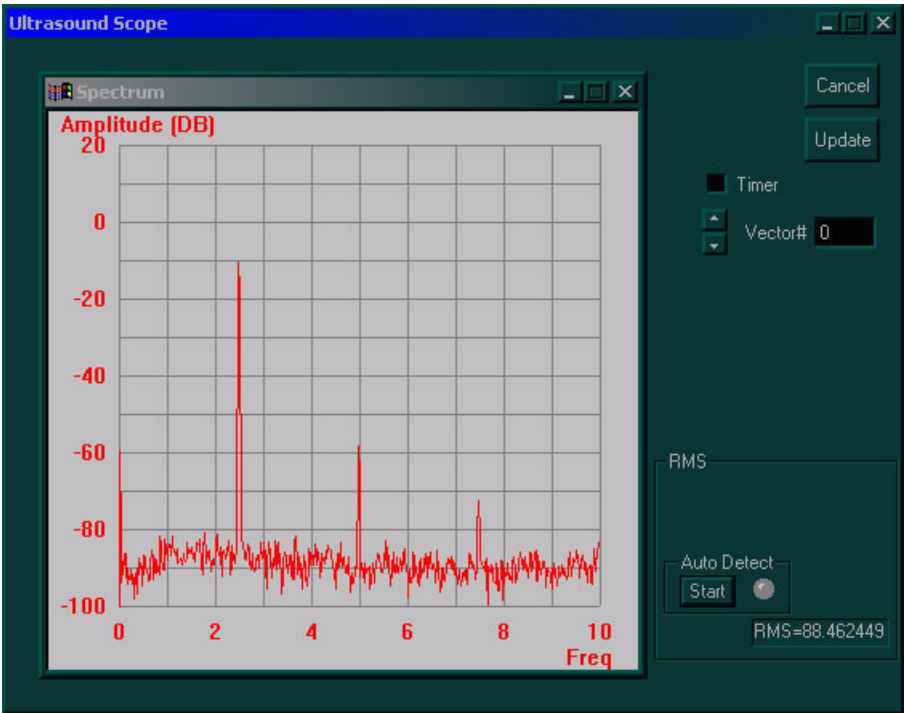

Figure 7-13 Ultrasound Scope Window
- 8.) Trackball to the **ADC** button and press **Select**. The beamformer digital test and ADC bit tests are activated sequentially. The test results are displayed, per vector, in the *Ultrasound Scope* window, as shown in Figure 7-13 below.